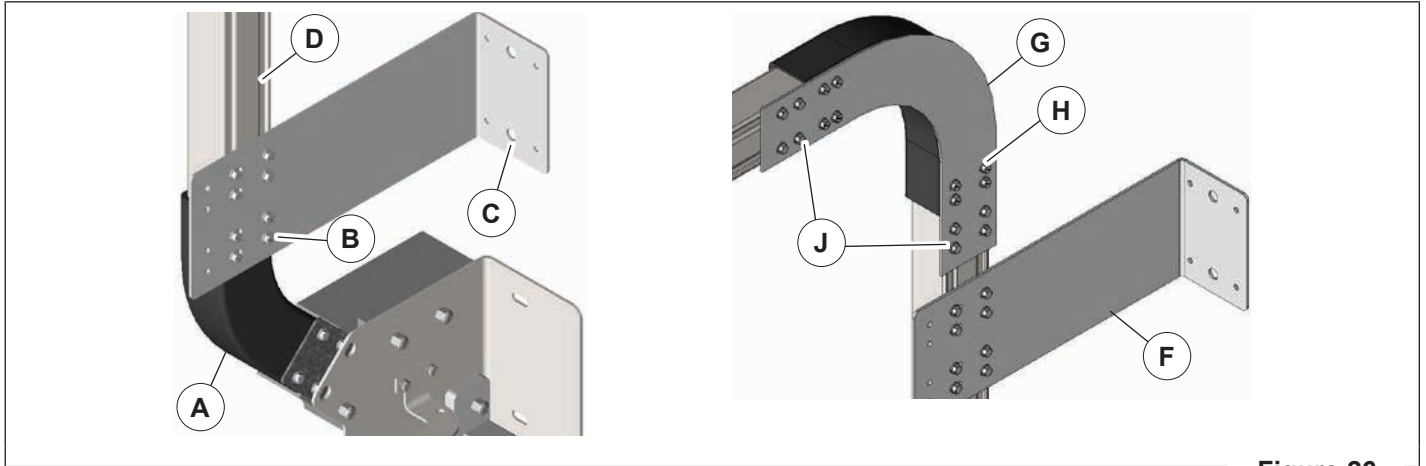
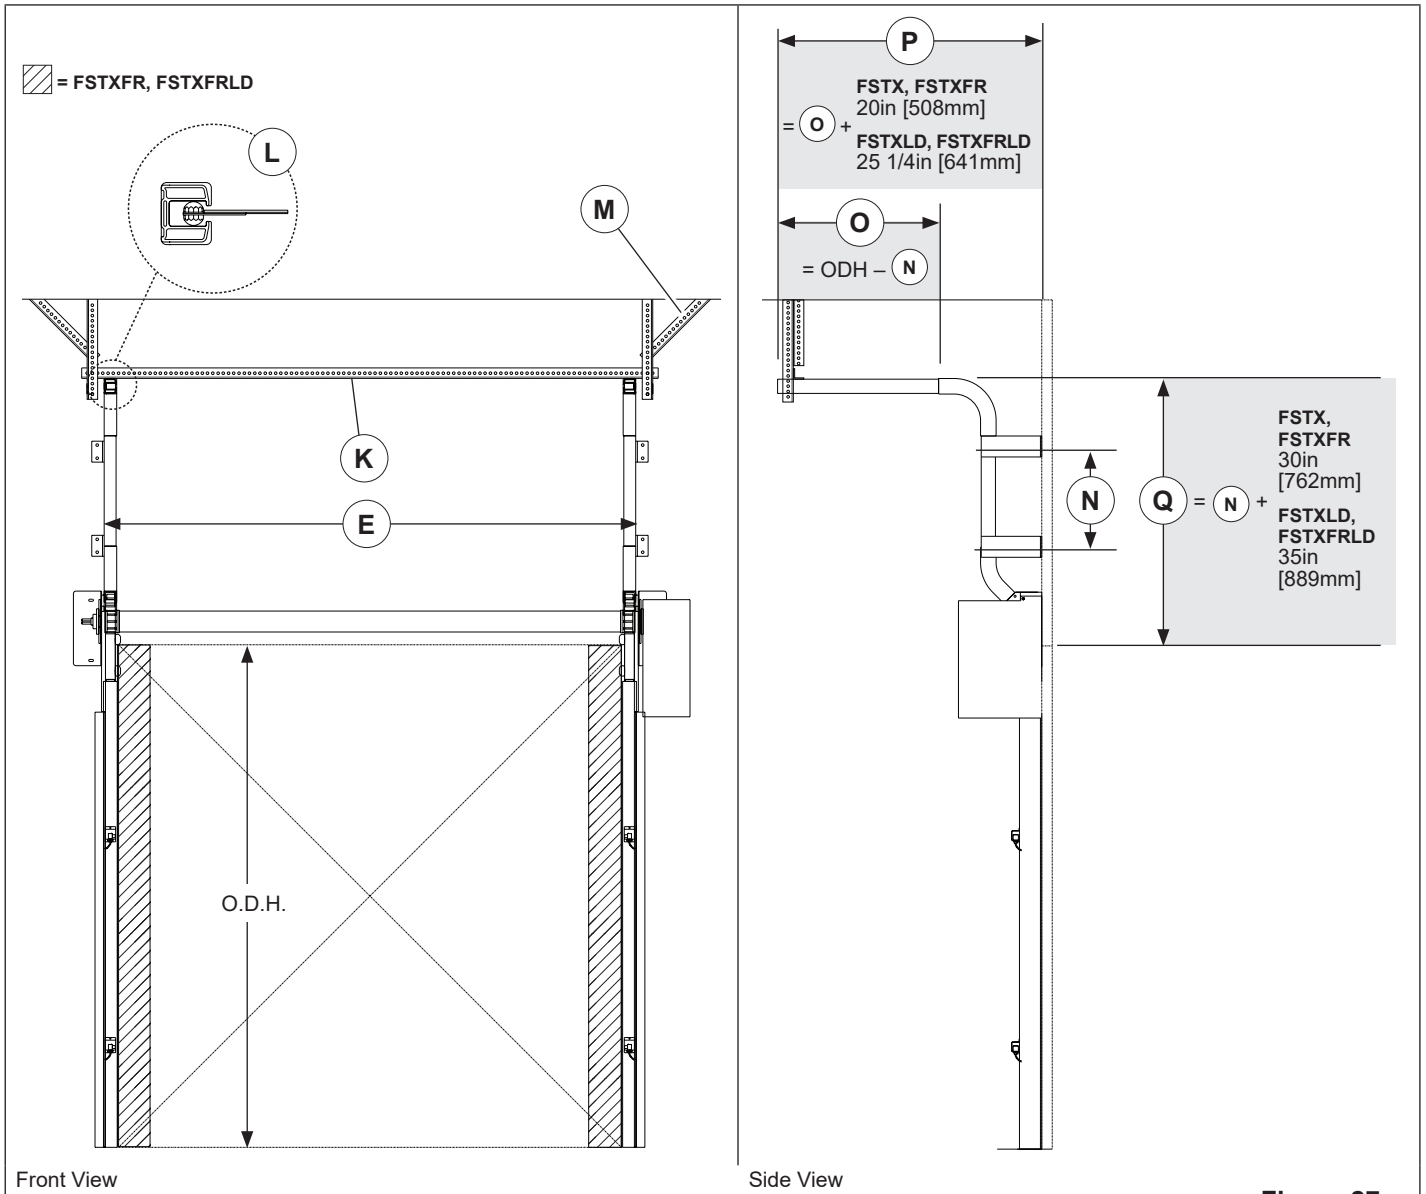

Figure 26
Figure 27
NOTE: If (N) is unknown, then Rite-Hite advises dimension to be a maximum of 1/2 O.D.H. (Figure 27).
1. The proper radius (A) is already assembled to the lower track (Figure 26).
2. Pilot holes (B) (.201Ø x 1 1/4in [5 x 32mm] deep) MUST be pre-drilled into lower track radius.
3. Place mounting bracket (C) in position and mark holes to be drilled in wall.
4. Locate the 2 pieces of upper track (D) and the supplied wall mount brackets. Slide end of upper track into the lower track radius (A), level, plumb and fasten to wall mount bracket using self drill/tap screws.
5. Use self drill/tap screws (J) in horizontal and vertical track.
6. Fasten upper wall mount bracket (F) to track and wall, below radius and splice bracket (G). Minimum 6in x 6in [152 x 152mm] backer plate required on hollow or insulated walls.
7. Use track splice bracket (G) to join lower and upper track. Drill .201 [5mm] Ø pilot hole 1 1/4in [32mm] deep for lag screws.
8. Use lag screws (H) in radius bracket.
9. Measure from outside edges of tracks (E):
10. **CRITICAL:** Fasten punched angle (K) (Figure 27) bracing at the end of the track, maintaining proper spacing.
11. When curtain is raised later in installation, make sure spheres are centered in track groove (L), if too tight, move tracks in, if too loose spread tracks apart.
12. Fasten bracing to diagonal (M) provide support from track to ceiling or wall.